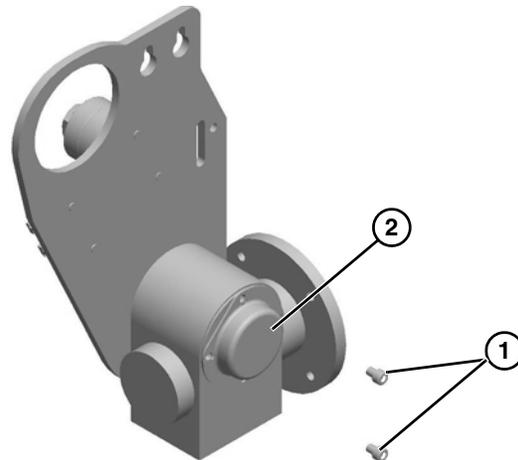

Figure 34
6. Remove two screws (Figure 34, item 1) and detach output shaft cover (Figure 34, item 2).